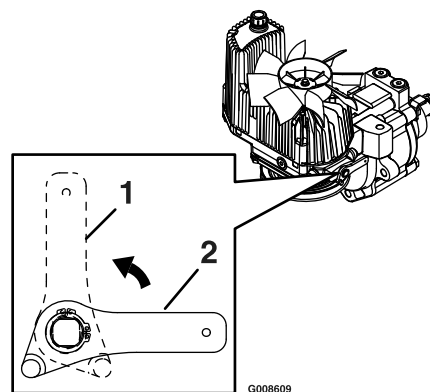

Figure 9
During normal operating conditions, the drive wheel release valves are positioned horizontally. If the machine has to be pushed by hand, the valves must be in the “released” position (see Figure 9).
To release the drive system (see item 1 in Figure 9), rotate the handle 1/4 turn to the vertical position until it hits against the stop.
To reset the drive system (see item 2 in Figure 9), rotate the handle 1/4 turn to the horizontal position until it hits against the stop.